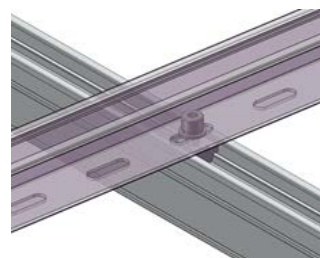

Figure 16
5.4.3 Position the Cable Tray on the top of ECO Rail by installing z module into the top channel as shown in Figure 16. Leave z module untighten.